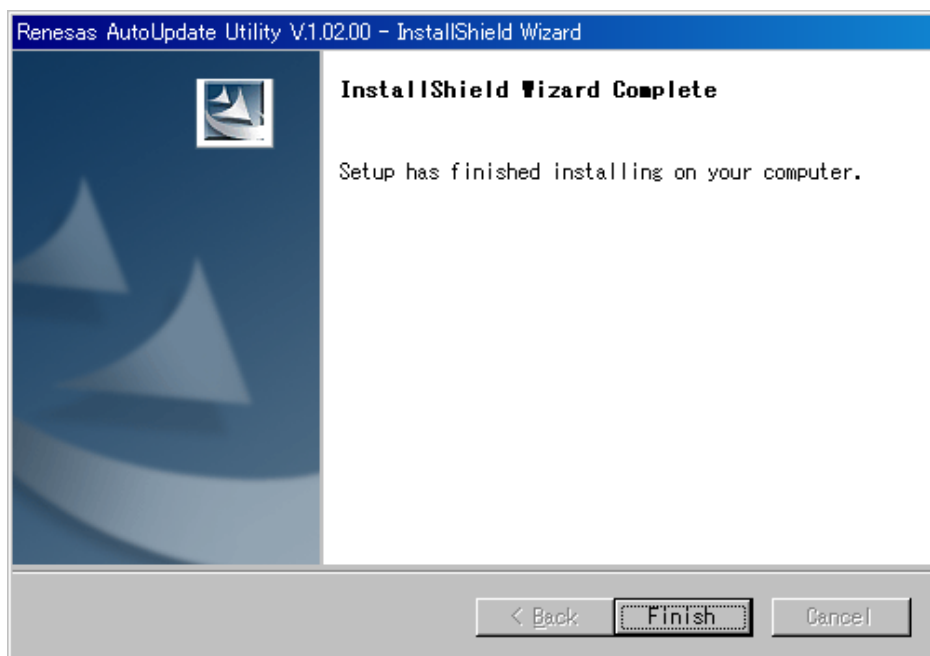

Figure 3.2.6 E10A-USB Software Installation Procedure (6)
(6) When the installation is complete, the dialog shown in Figure 3.2.6 is displayed. Click “Finish”.